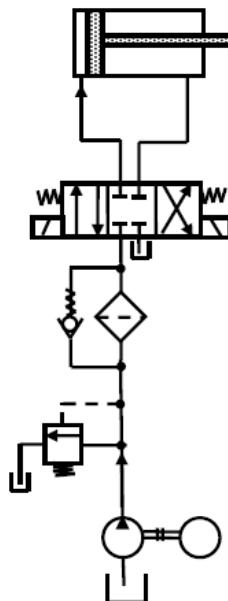

Figure 2.2 - Pressure filter
- **Pressure line filters (high-pressure filters):** These are placed immediately after the pump to protect valves and actuators and can be a finer and smaller mesh (Fig. 2.2). They should be able to withstand the full system pressure. Most filters are pressure line filters.